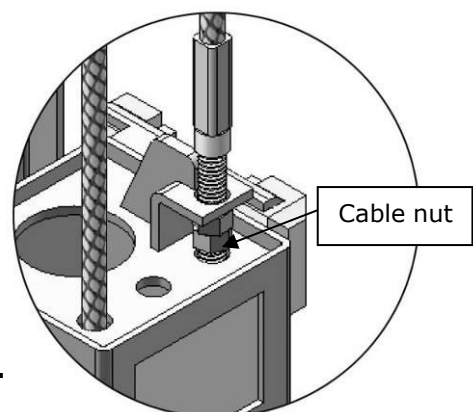

Fig. 43
1. Adjust synchronous cable (See Fig. 43)